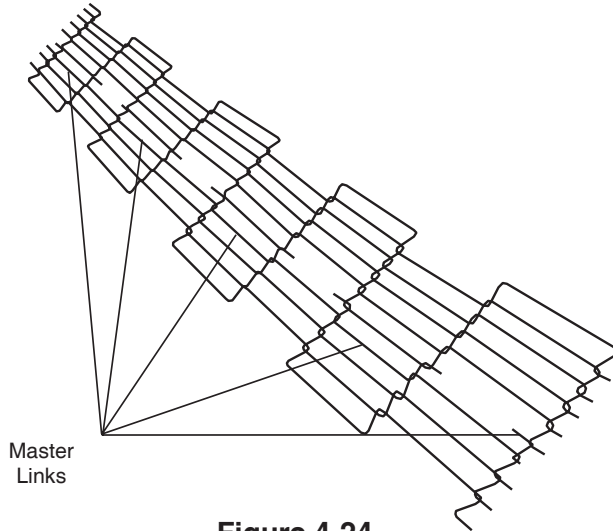

Figure 4-24
1. Using long nose pliers, an entire link can be removed with the conveyor assembly either in or out of the oven. Position master links at the end of the conveyor as shown in Figure 4-24.